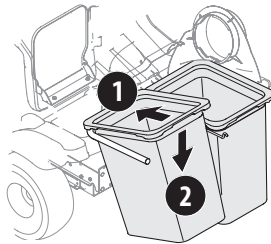

Figure 16
- Install both grass bag assemblies (664-05104) onto the hanger assembly rails by inserting the front edge in first (1), and then setting the back edge down until it fits into the assembly (2), as shown in Figure 16.